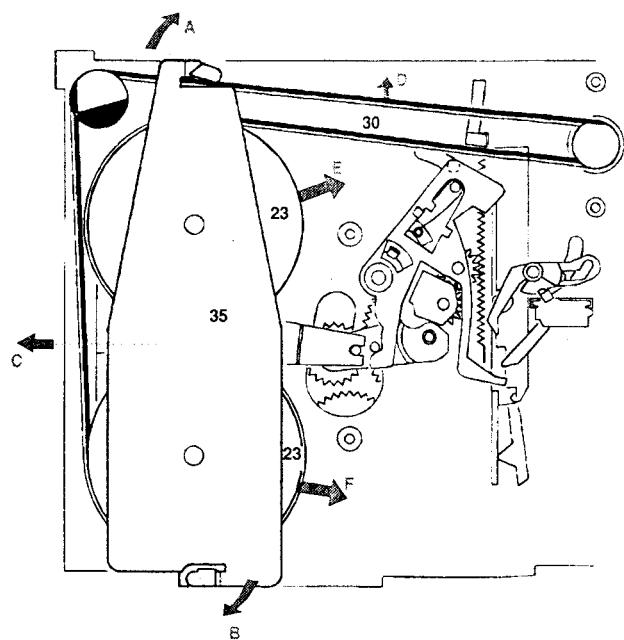

Fig. 5
- 7.1 Release pivot plate (35) by turning the plastic hooks acc. fig.5-A,B